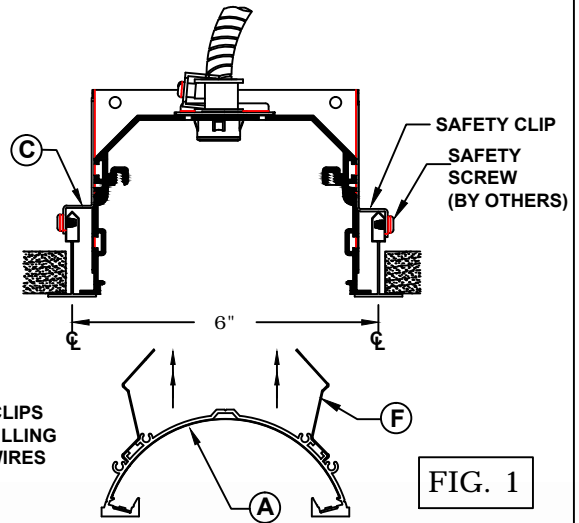

FIG. 1
MODIFY IF NECESSARY AND MOUNT A 2' OR 4' (AS REQUIRED) LENGTH OF T-BAR (B) ON CENTERS AS INDICATED BELOW FROM EXISTING T-BAR. (FIG. 1)
LOOSEN LOCK NUTS AND ADJUST SAFETY CLIPS (C) SO THAT THEY ARE APPROXIMATELY 2" FROM EACH END OF FIXTURE AND RESTING ON TOP OF T-BAR. TIGHTEN LOCK NUTS SECURELY. (REF FIG.1) NOTE THAT T-BAR SAFETY CLIPS MAY BE SCREWED TO T-BAR IF REQUIRED BY LOCAL CODE. (FASTENERS PROVIDED BY OTHERS)